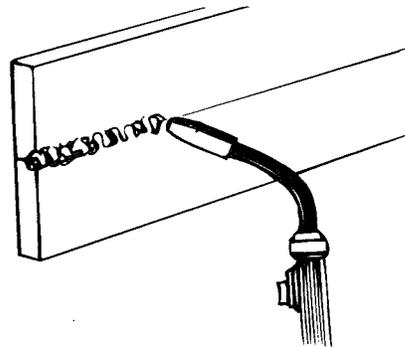

Figure 10. Horizontal Position Weld
2. The HORIZONTAL POSITION (Figure 10) is next in difficulty level. It is performed very much the same as the flat weld except that angle B (see POSITION OF THE GUN TO THE WORK PIECE, above) is such that the wire, and therefore the arc force, is directed more toward the metal above the weld joint. This is to help prevent the weld puddle from running downward while still allowing slow enough travel speed to achieve good penetration. A good starting point for angle B is about 30 degrees DOWN from being perpendicular to the work piece.